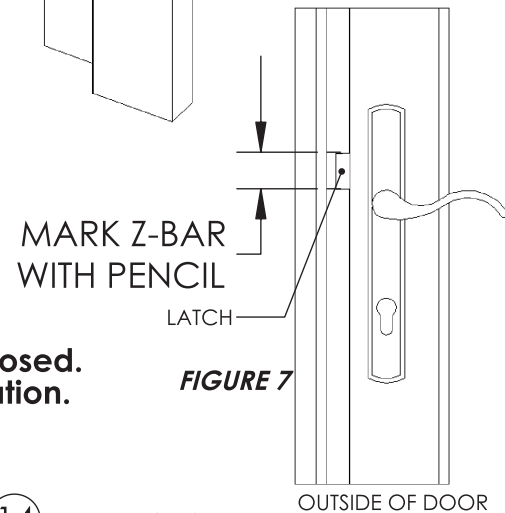

FIGURE 7
1. With the door open extend the hooks by lifting up on the lever. Carefully close the door until the latch bolt and the top and bottom hooks make contact with the Z bar. With a pencil, mark the location of the latch bolt and the top and bottom of each hook on the Z bar. (See figure 7). Return the hooks to the fully retracted position by pushing down the lever.